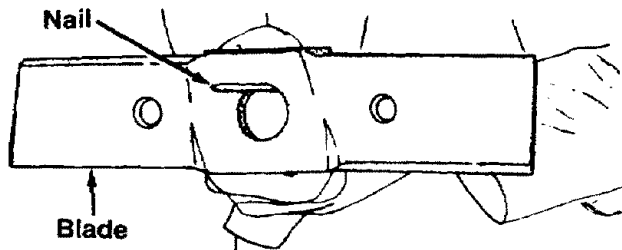

FIGURE 20.
- The blade can be tested for balance by balancing it on a round shaft screwdriver or nail. Remove metal from the heavy side until it is balanced evenly. See figure 20.